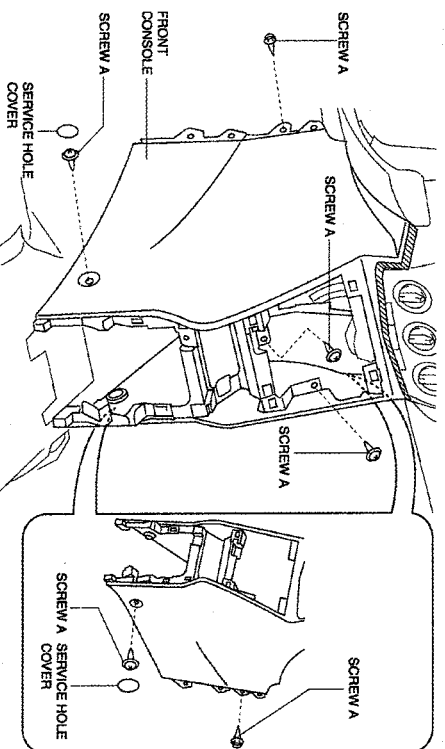

FIGURE 14
- 1.) REMOVE THE SERVICE HOLE COVERS, THEN REMOVE SCREWS A. (SEE FIGURE 14)